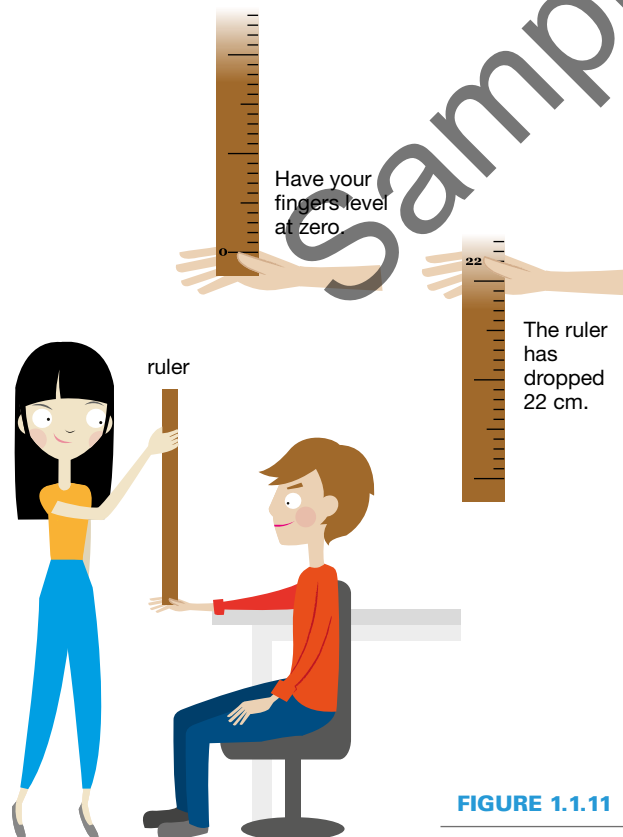

FIGURE 1.1.11
- 2 Work with a partner. Hold the ruler vertically with its zero in line with the top of your partner's hand, as shown in Figure 1.1.11.